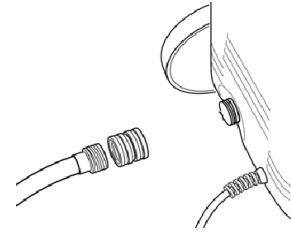

Fig.8
8. ASSEMBLE THE WATER INLET CONNECTOR (Fig.8)